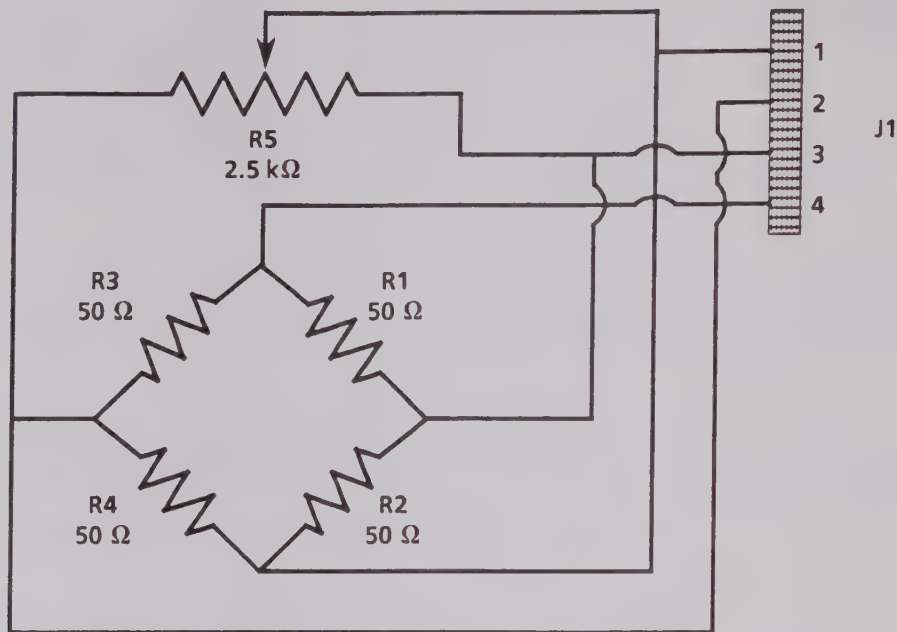

Figure 5-5. Temperature Control Meter Test Fixture, Schematic Diagram
- D. Construct a test fixture using the parts in Table 5-4 and following the schematic shown in Figure 5-5. Connect the test fixture to the temperature **CONTROL** connector located on the front panel of the Model 1805B using the temperature control cable (W/E Part No. 138-477) provided with the Model 1805B. Insert the connectors as keyed and tighten down the knurled ring.